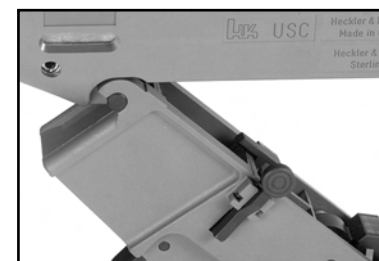

Fig. 32
- 2 • From below, engage lower receiver (hammer between cocked and released positions) into the support bolts on the upper receiver and swivel it upwards (Fig. 32).